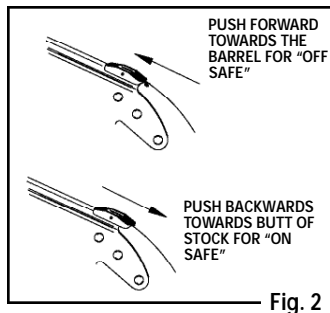

Fig. 2
- Push the safety back towards the butt end of the stock (Fig. 2). The safety is not "On Safe" unless it is pushed all the way back towards the butt of the stock and the RED dot is not showing. The air rifle will not fire when "On Safe".